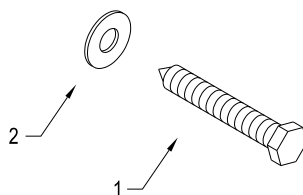

Figure 2
1. Remove contents from carton and examine for damaged or missing parts. See Figure 2.